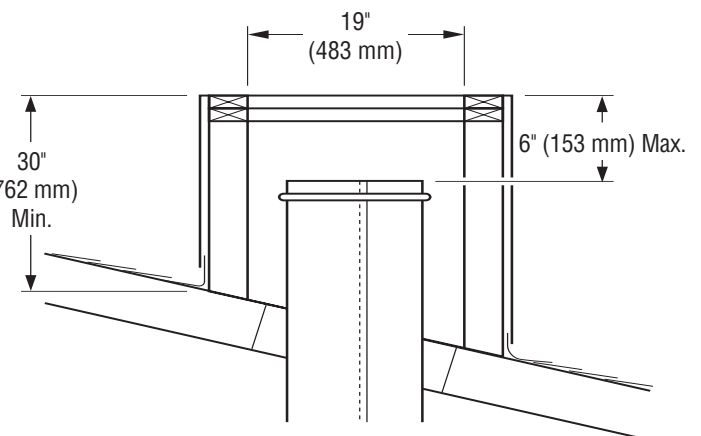

Figure 23 - Constructing Chase
1. Construct chase as illustrated in Figure 23. **Note:** The shortest vertical side must be at least 30" high and minimum inside dimension must be at least 19" as shown in Figure 23.
2. Add pipe sections to chimney system as outlined in fireplace installation instructions until last piece of chimney is a maximum of 6" below top of chase (see Figure 23).